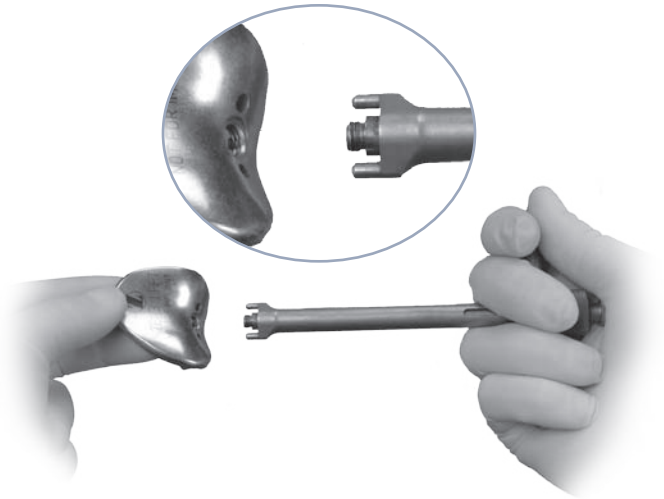

Fig. 49
- Attach the Inserter/Extractor Handle to the appropriate size PFJ Provisional (Left or Right) (**Fig. 49**).